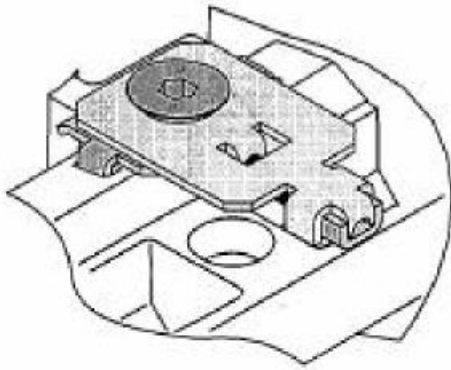

Figure 4 - CSM Clamp
- 6.06** Remove the Central Strength Member (CSM) clamps aligned with the cable ports to be used using the provided Allen wrench and set the clamp plates and screw aside for later installation. See **Photo 3 – CSM Clamp Removal** and **Figure 4**.